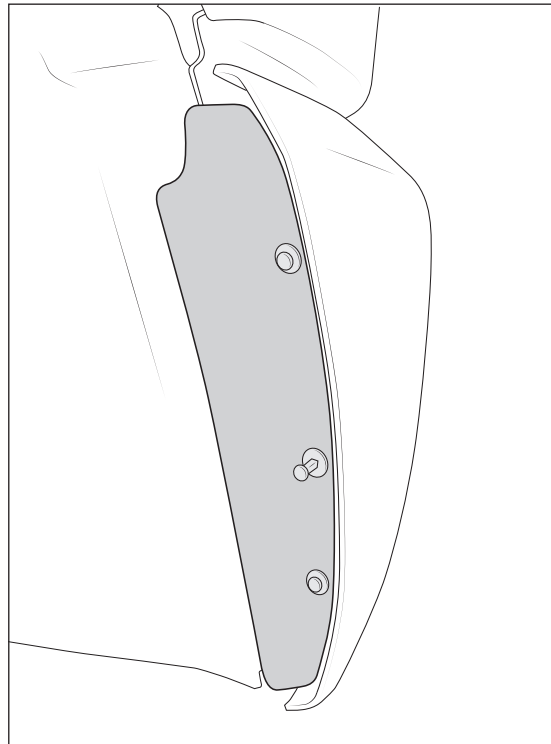

Figure 31
6. Install the fender liner retainer plates using three supplied 3/8" push pin fasteners per side (fig. 31).